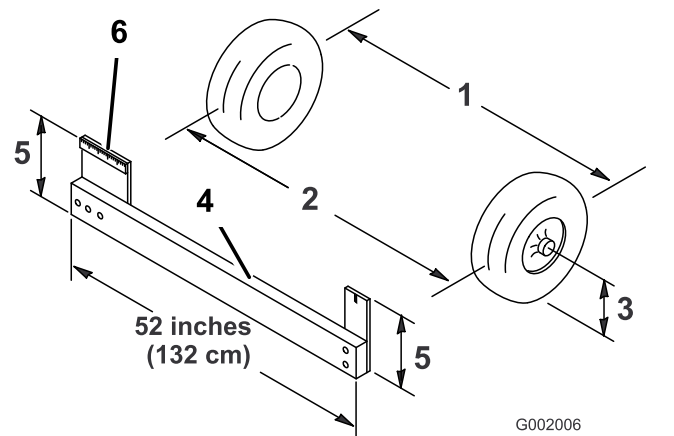

Figure 34
4. Measure the distance between both of the front tires at the axle height at both the front and rear of the front tires (Figure 34).
Note: A fixture or alignment gauge is needed for the rear measurement of the front tires at axle height. Use the same fixture or alignment gauge to accurately measure the front of the front tires at axle height (Figure 34).